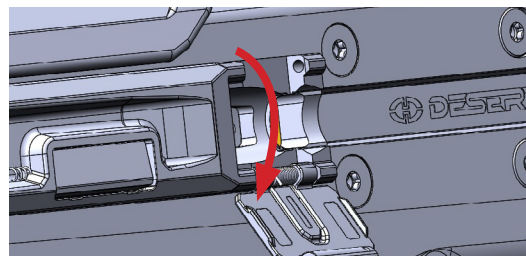

Fig. c-1
1. To do a fast chamber check, open the dust cover by pulling the top of the dust cover plate outwards. The retention spring will do the rest to open it. (Fig. c-1)